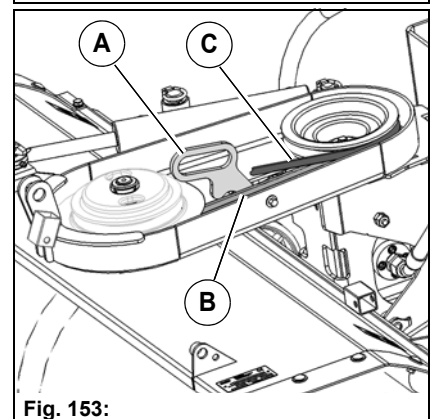

Fig. 153:
The brush speed of the front sweeping machine can be adapted to the working conditions with the two-stage belt drive. The V-belt can be loosened by moving the handle **Fig. 153-A** so that it can be placed effortlessly in another stage. The speed can be further adapted with the switch for the fixed engine speed, see page 159.
- Summer operation: Stage **Fig. 153-B** (low speed)
- Winter operation: Stage **Fig. 153-C** (high speed)